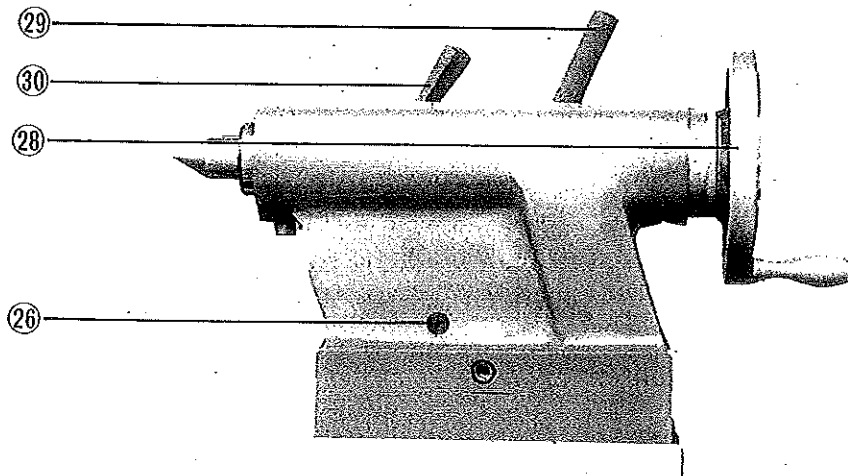

Fig 4-12
2. To lock the quill push locking lever forward. (#30 Fig. 4-12).
3. The center line of the tailstock can be adjusted using set-over adjusting screw #26 Fig. 4-12. After adjusting be sure to tighten screws on both sides.